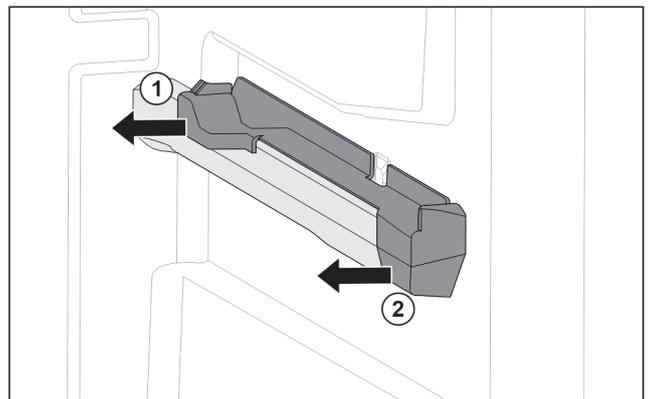

Fig. 61 Attachment on the right moulded rib
- ▶ Pull off attachment at the back sideways. *Fig. 61 (1)*
- ▶ Pull off attachment at the front sideways. *Fig. 61 (2)*